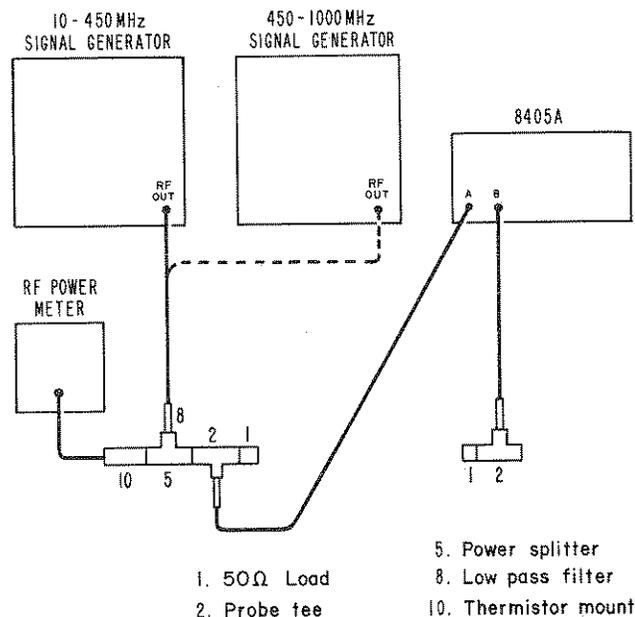

Figure 3. Voltage Accuracy (100 to 1000 MHz)
- a. With signal source set to minimum output, connect equipment as shown in Figure 3. Allow one-hour warmup.